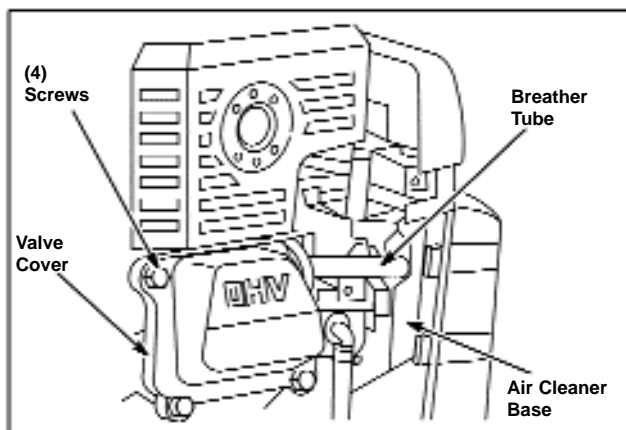

Figure 102 - Removing Breather
2. Remove four (4) valve cover screws.
3. Remove valve cover, and remove breather tube from air cleaner hose and carburetor air intake elbow. See Figure 102.